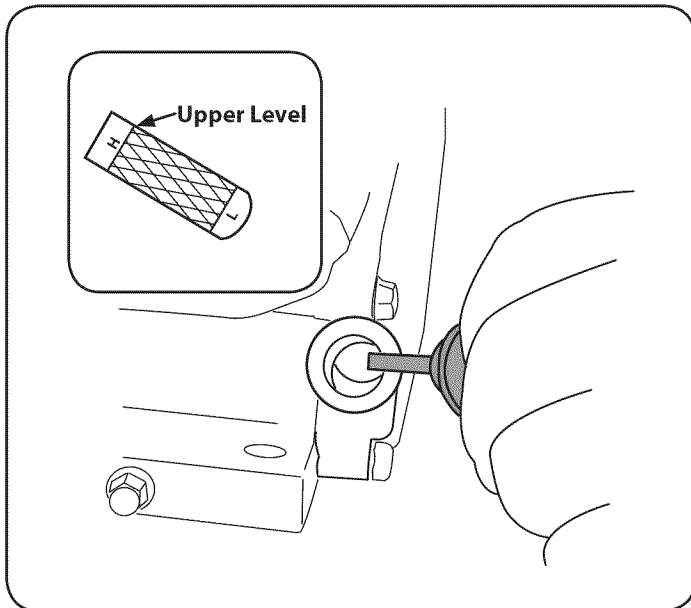

Figure 3
1. Remove the oil filler cap/dipstick and wipe the dipstick clean. See Figure 3.